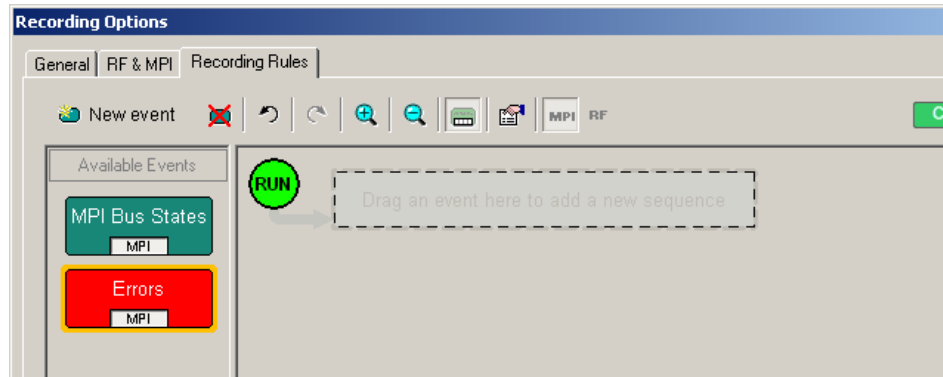

Figure 12.13 Drag-and-Drop Event Button to Cell
Step 2 Drag the button to the cell. When the button is in the cell, a dashed highlight line appears around the cell (Figure 12.13).